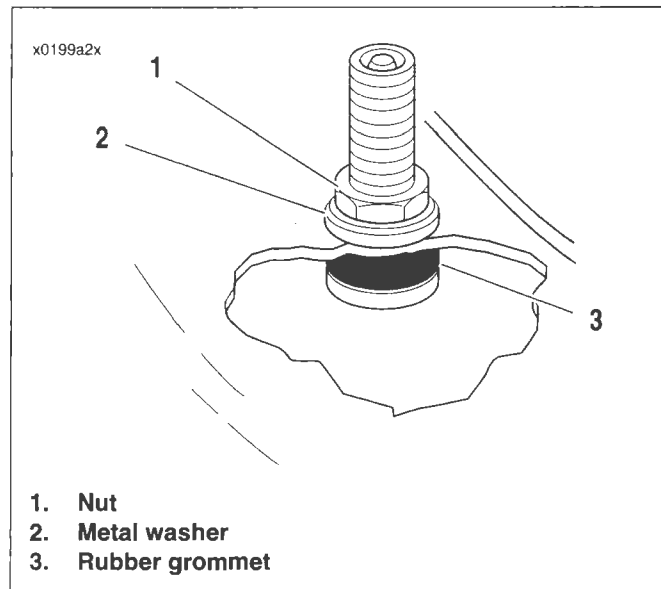

Figure 2-48. Tubeless Tire Valve Stem
1. See Figure 2-48. On tubeless wheels, damaged or leaking valve stems must be replaced. Install rubber grommet (3) on valve stem.
- b. Install metal washer (2).